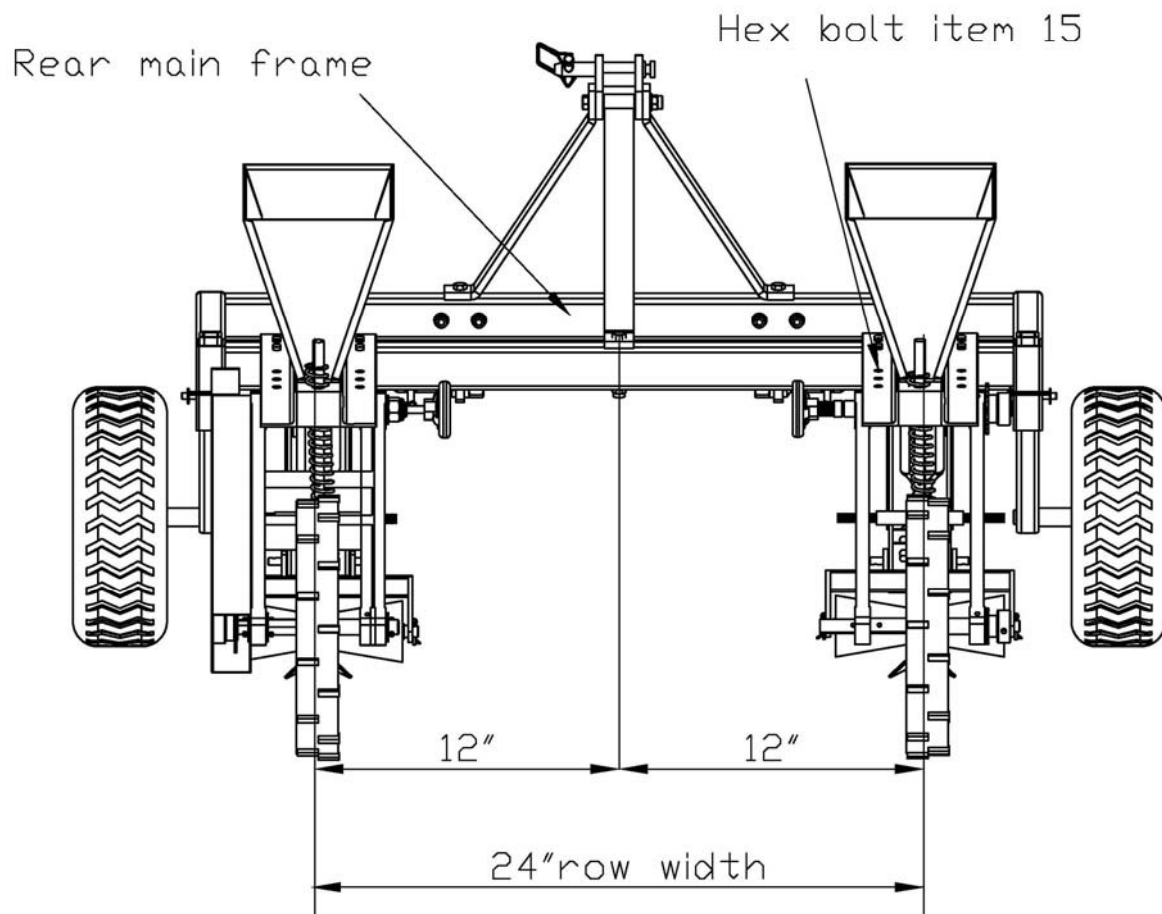

Figure 11
1. To adjust the row width loosen the 4 hex bolts item 15, that fasten the planter assembly to the rear frame assembly. Measuring from the middle of frame, move the planter in or out to half the row width. I.e. 24" row width measures 12" from middle frame to the planter assembly. Repeat for opposite planter assembly. See figure 11.